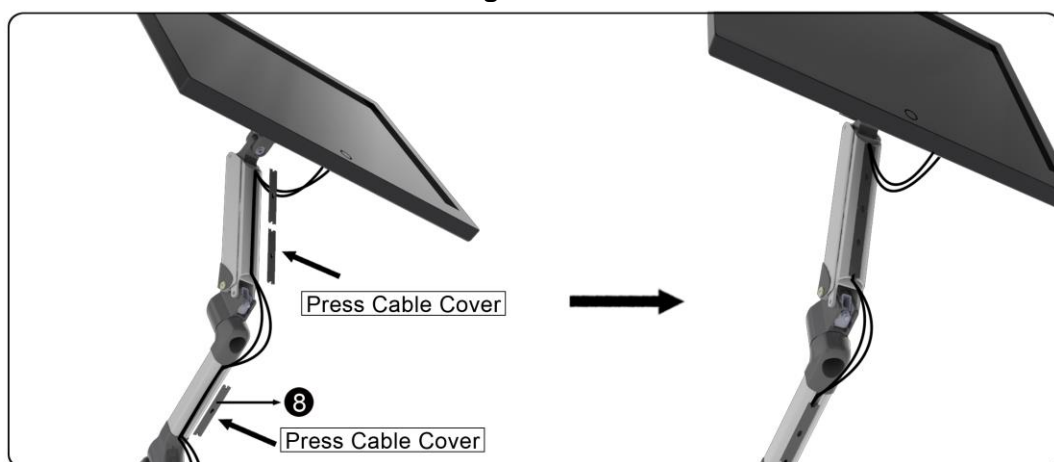

Figure 4-2
2. Feed the cables through the underside of the arms and push them into the cable entry slots. Then proceed to install the Cable Covers (**8**) to secure the cables (**See Figure 4-2**).